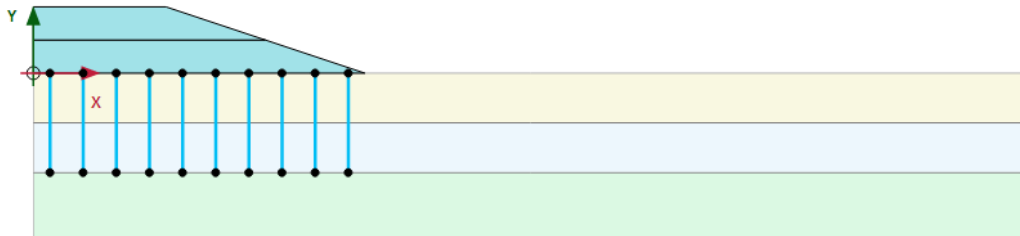

Figure 9-5: Final geometry of the model
- 2 Drains are defined in the soft layers (clay and peat; $y = 0$ m to $y = -6$ m). The distance between two consecutive drains is 2 m. Considering the symmetry, the first drain is located at 1 m distance from the model boundary. 10 drains will be created in total. The **head** is defined at 0.0 m. The geometry is shown in Figure 9-5 \(p. 150\).